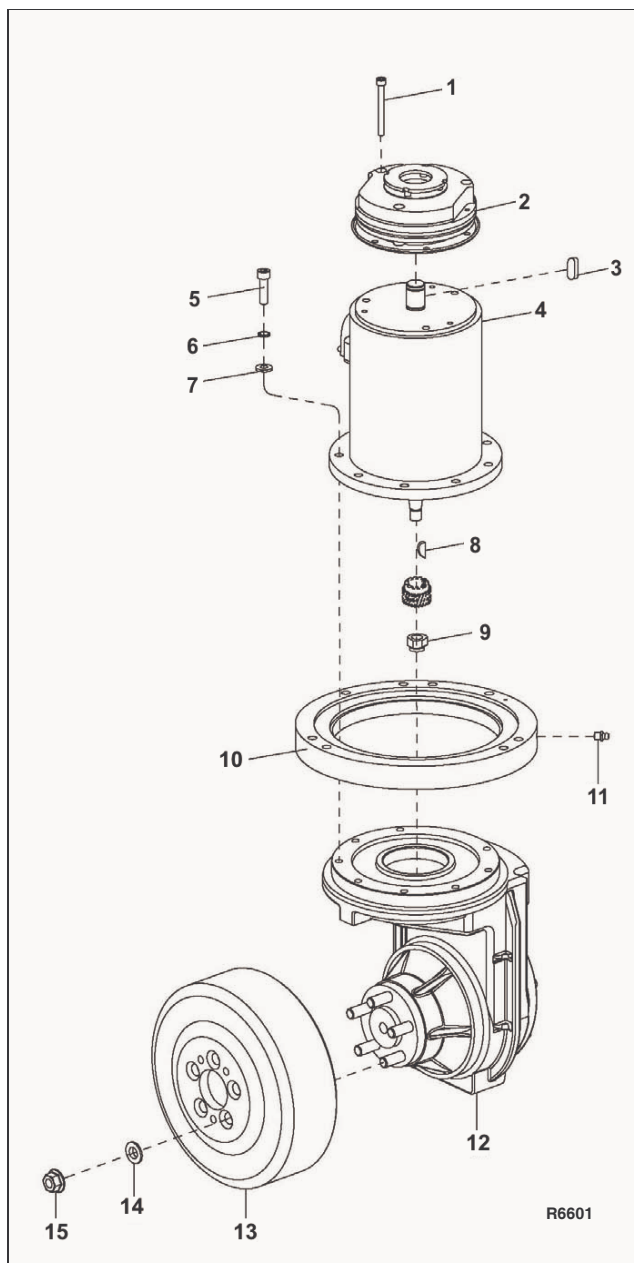

Figure 10-3 Transmission, Motor, Brake Assembly
4. Remove the eight screws (5, Figure 10-3), eight washers (6) and eight flat washers (7).
5. Lift motor (4) from transmission (12).
6. Remove nut (9), gear, and key (8) from the motor (4).
1. Position key (8, Figure 10-3) and gear on the shaft of motor (4) and secure with nut (9).
2. Install drive motor onto transmission. Make sure to align gear (11) with the gear inside the transmission.
3. Reinstall the eight screws (5), eight washers (6) and eight flat washers (7). to secure the motor to the transmission.